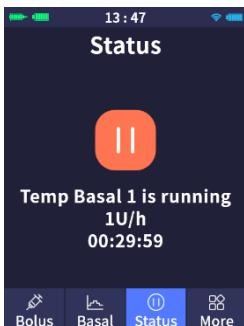

Figure 15.2
(2) After the delivery at the temp basal starts, the status interface will display the current temp basal and the remaining delivery time (as shown in Figure 15.2).
(3) If you need to suspend/stop/cancel the temp basal, please click "||" on the status interface (as shown in Figure 15.2), you can choose to suspend/stop/cancel the temp basal in the pop-up interface (as shown in Figure 15.3).